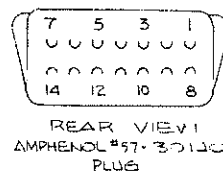

Fig. I-5: Rear View, Amphenol #57-30140 Plug
8) **Wiring To The STR-84 Exciter:** Connections to the STR-84 exciter are made from both the OPTIMOD-AM Accessory Port and OPTIMOD-AM's TX1 and TX2 output terminals, the latter being located on OPTIMOD-AM's rear-panel barrier strip. (The OPTIMOD-AM Accessory Port accepts an Amphenol #57-30140 plug.) Refer to Fig. I-5 below, and wire the plug and rear-panel barrier strip to the STR-84 exciter as follows: